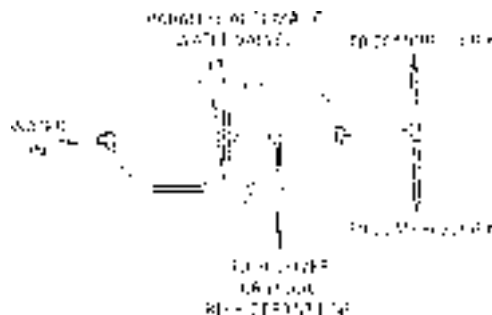

FIGURE 4.8 A method of interconnecting water valves.
- Single automatic water valves or multiple valves in parallel (Figure 4.8) should be installed in the common water line.